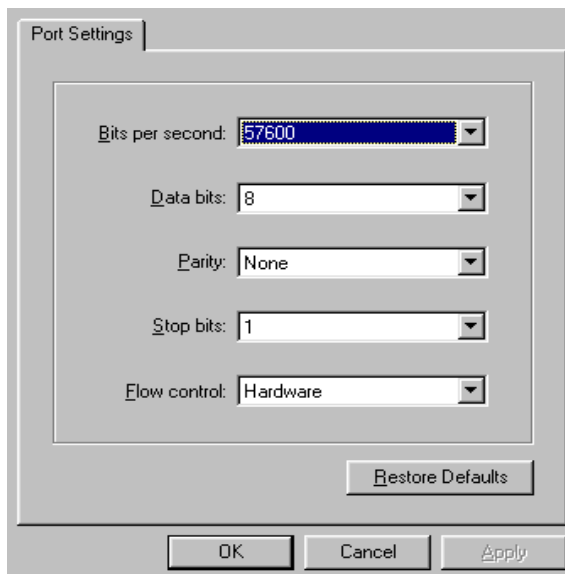

Figure 3-23 COMn Properties Dialog Box
- g. Ensure the *Connect using* field displays **COM1** or **COM2** (depending on the serial communication port connection to the director), and click *OK*. The *COMn* dialog box (Figure 3-23) displays (where *n* is 1 or 2).